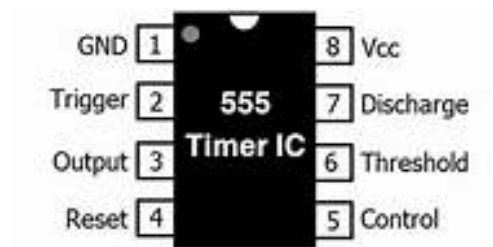

Figure 3.4: The 555 timer IC
The 555 timer is an integrated circuit (IC) widely used in various electronic circuits because of its robust and stable properties. It generates a square-wave with a duty cycle varying from 50% to 100% when used as an oscillator. It can also be used in circuits to provide time delay. Figure 3.4 shows the 555 timer with its pin connections